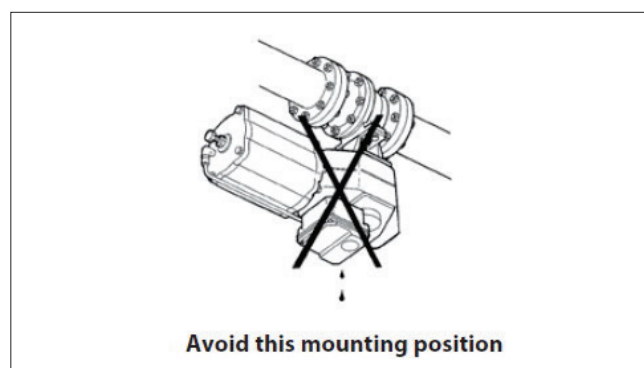

Fig. 4 Avoid this mounting position
5. It is not recommended to install the valve with the stem on the underneath side because dirt in the pipeline may then enter the body cavity and potentially damage the stem packing (see Figure 4).
Install the valve in the pipeline so that the shaft is horizontal if possible. However, Valmet does not recommend installing the valve with the actuator on the underside (Figure 4) because dirt in the pipeline may damage the gland packing.